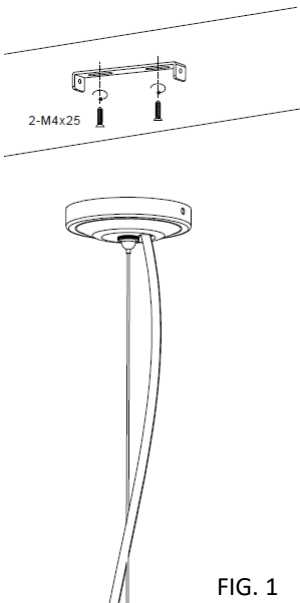

FIG. 1
- Attach the mount with 2x M4x25 screws. (Fig. 1)